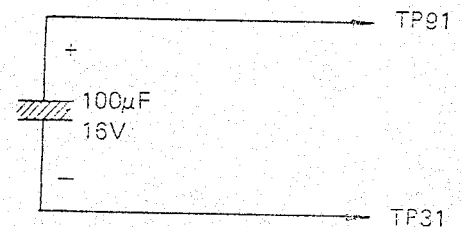

Fig. 5
- (1) Receive monoscopic signal.
- (2) Provide a 100 μF capacitor (or equivalent) across TP31 and +B line side (TP91). Connection as shown in Fig. 5. At this time V. hold control must be set approx. 50 Hz (in sync.) position.
- (3) Adjust T501 to hold the picture at the center or moves slowly toward left or right direction.